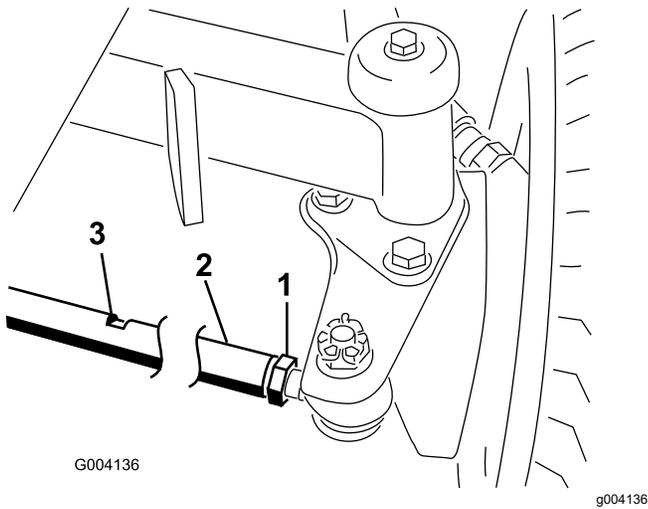

Figure 103
- Loosen the jam nut on each end of the tie rod (Figure 103).